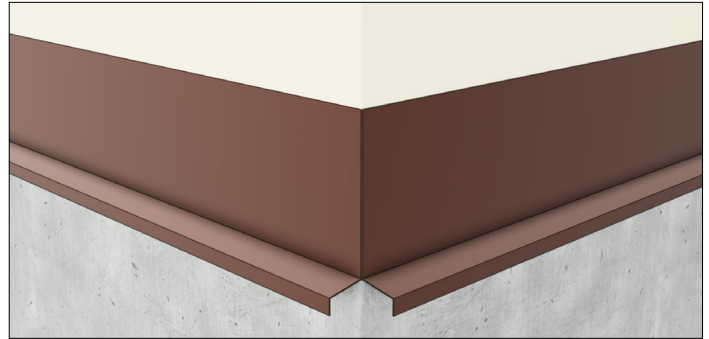

Figure 16.3
3. Align the Flashing ends flush to outside corners and 1-1/2" back from inside corners and 2 piece Perimeter trims. (Figure 16.3 a, b & c)
Figure 16.3 a
Figure 16.3 b